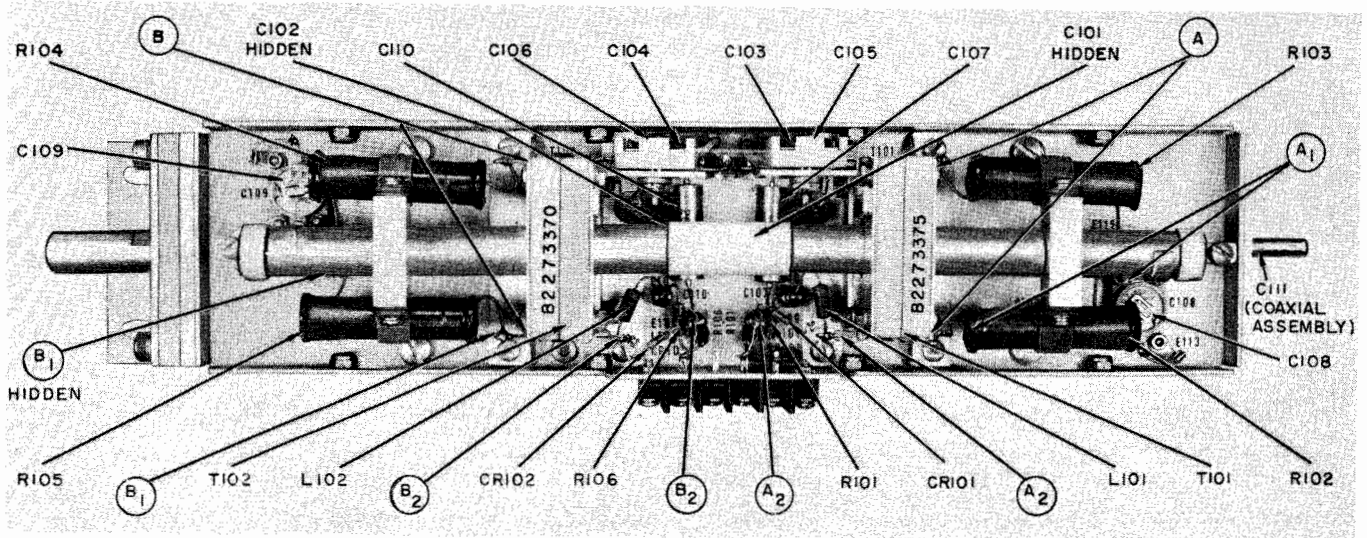

Figure 5-1. Reflectometer, Location of Test Points and Parts
- e. Illustrations showing component and test point locations (see figures 5-1 through 5-5).
a. Figures 5-1 through 5-5 show the location of each circuit part in the rf tuner and rf coil, plus those mechanical parts which may require replacement during the service life of the AN/BRA-6.